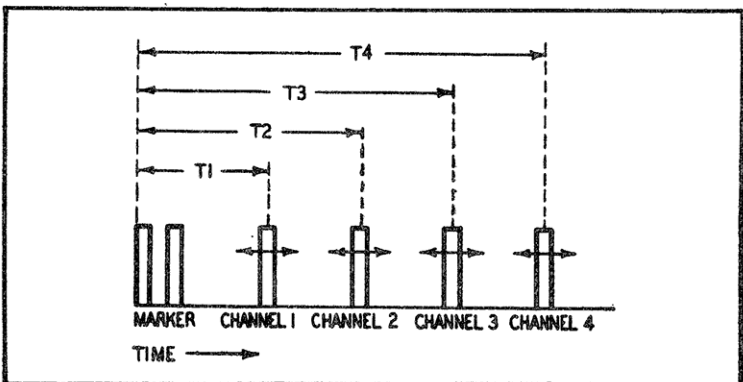

Fig. 2-7. Time modulation of the pulses is often used when a great many commands are to be sent in a short period.
*intelligence* pulses are shifted about the rest position can be made to represent various audio tones. For example, a shift rate of 1000 times per second would be a tone of 1,000 cycles when decoded. In decoding equipment using this method, the decoder knows the rest time of each pulse following the marker. Through a circuit like a discriminator, it produces the positive and negative alternations of a sine wave as each pulse is received early or late with respect to its rest interval. This idea is illustrated in Fig. 2-7.